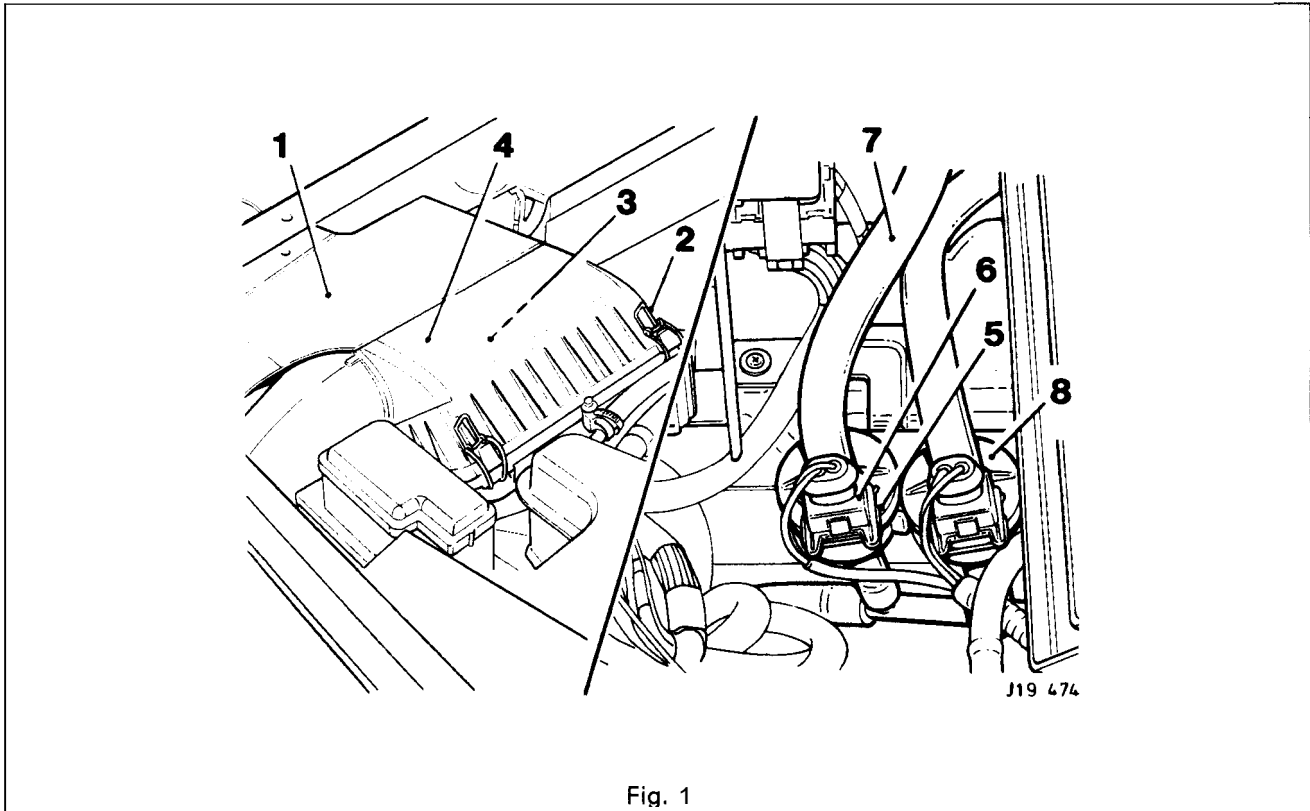

Fig. 1
- Remove the left-hand headlamp relay cover (1 Fig.1), see Section 15.
- Remove the left-hand air cleaner element (2 Fig.1).
- Remove the right-hand air cleaner assembly (3 Fig.1).
- Remove air box mounting bracket (4 Fig.1).
- Disconnect 'A' bank purge valve multi-plug(5 Fig.1).
- Release securing clip (6 Fig.1).
- Disconnect all hoses (7 Fig.1) from valve.
- Remove valve (8 Fig.1).